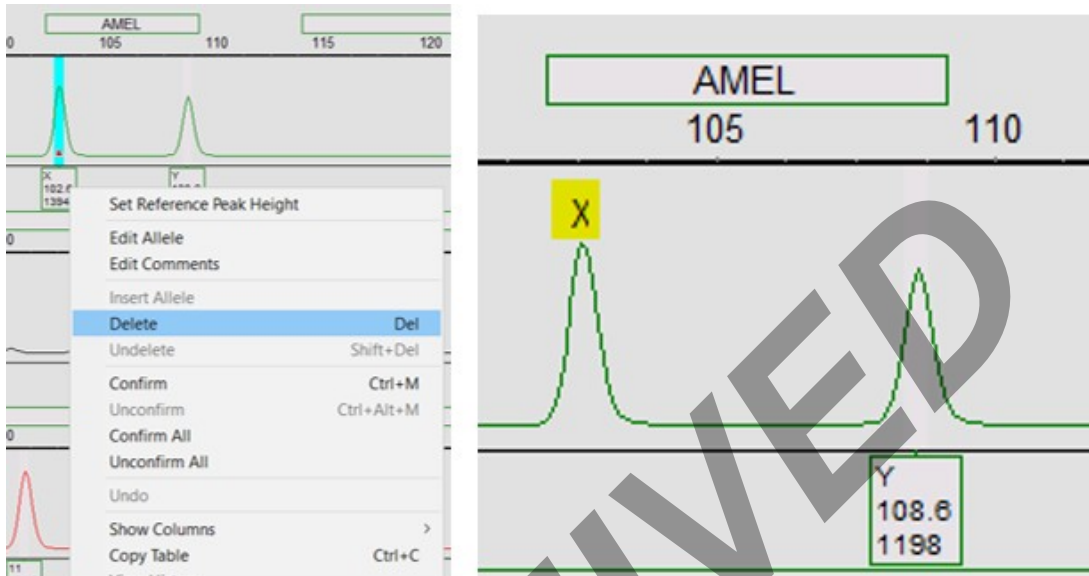

Figure 8. Deleting artifacts in GeneMarker™ HID
1. Choose the marker to edit by using the drop-down tool bar on the upper right (See Figure 8). Click and drag the mouse to zoom in and out of the electropherogram.
2. To delete artifacts (e.g. stutter, pull up, etc.), right click on the peak and choose "Delete". The peak will appear with an "X" above it (See Figure 8). The deleted peak will be observed in the allele comments in the chart/table as shown in Figure 8.